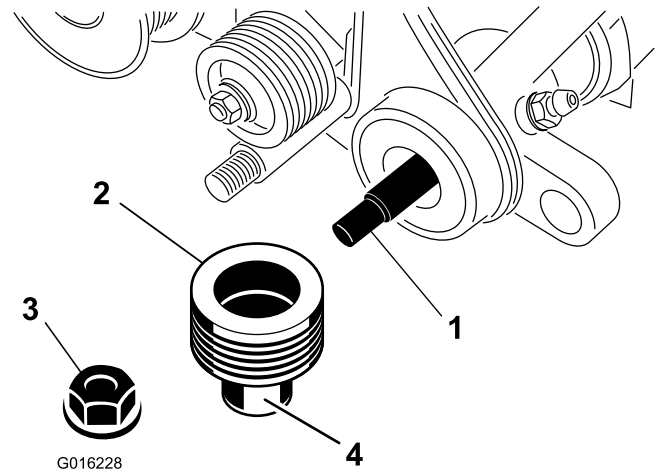

Figure 6
13. Apply grease to the outer seal of the drive pulley (Figure 6).
14. Slide the pulley onto the groomer shaft (Figure 6).
15. Secure pulley to shaft with a flange lock nut (Figure 6) and torque it to 23 to 28 N-m (17–21 ft-lb).
16. Apply grease to the seal in the left-hand support plate and to the end of the groomer shaft (Figure 6).